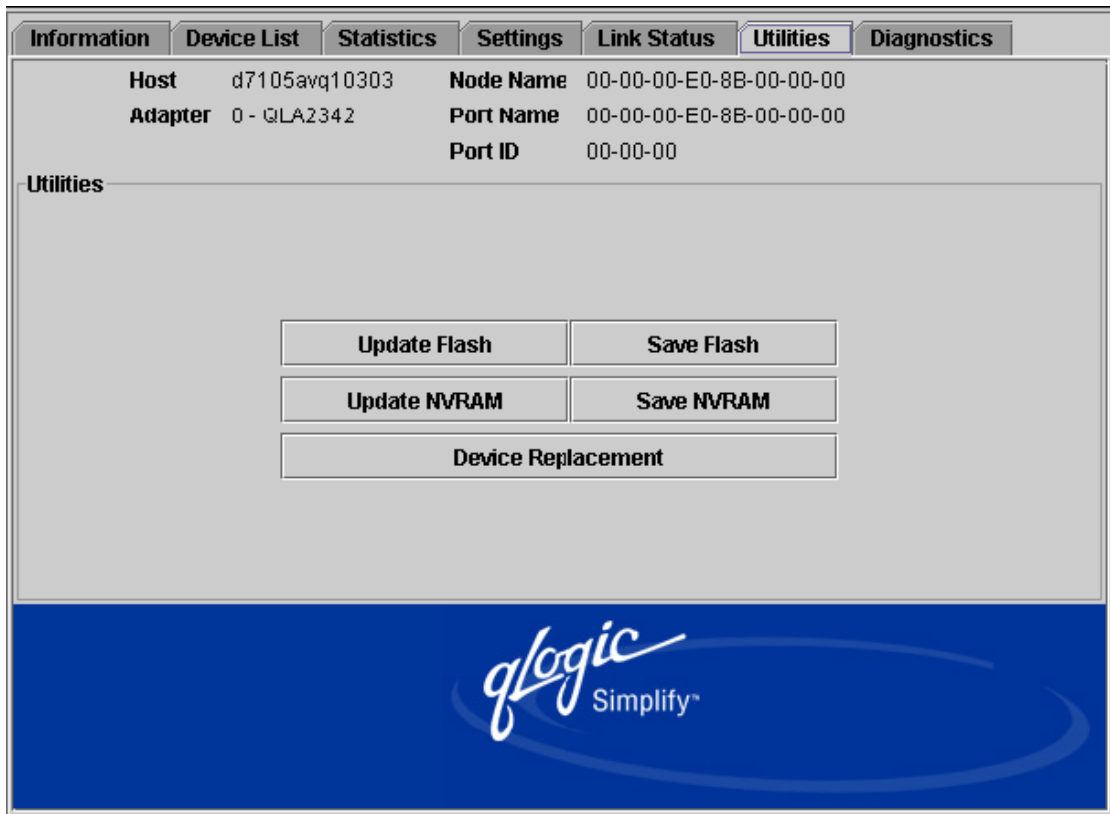

Figure 63 Utilities tabbed page
2. Click the **Utilities** tab. The Utilities page displays (see Figure 63 on page 102).